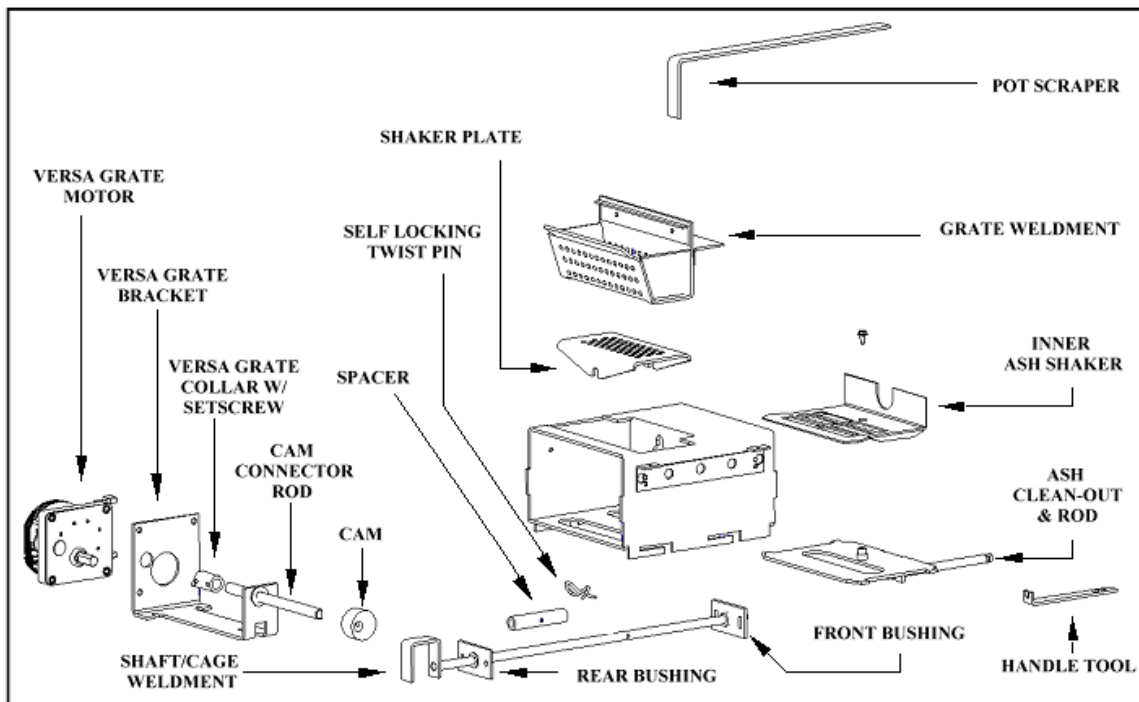
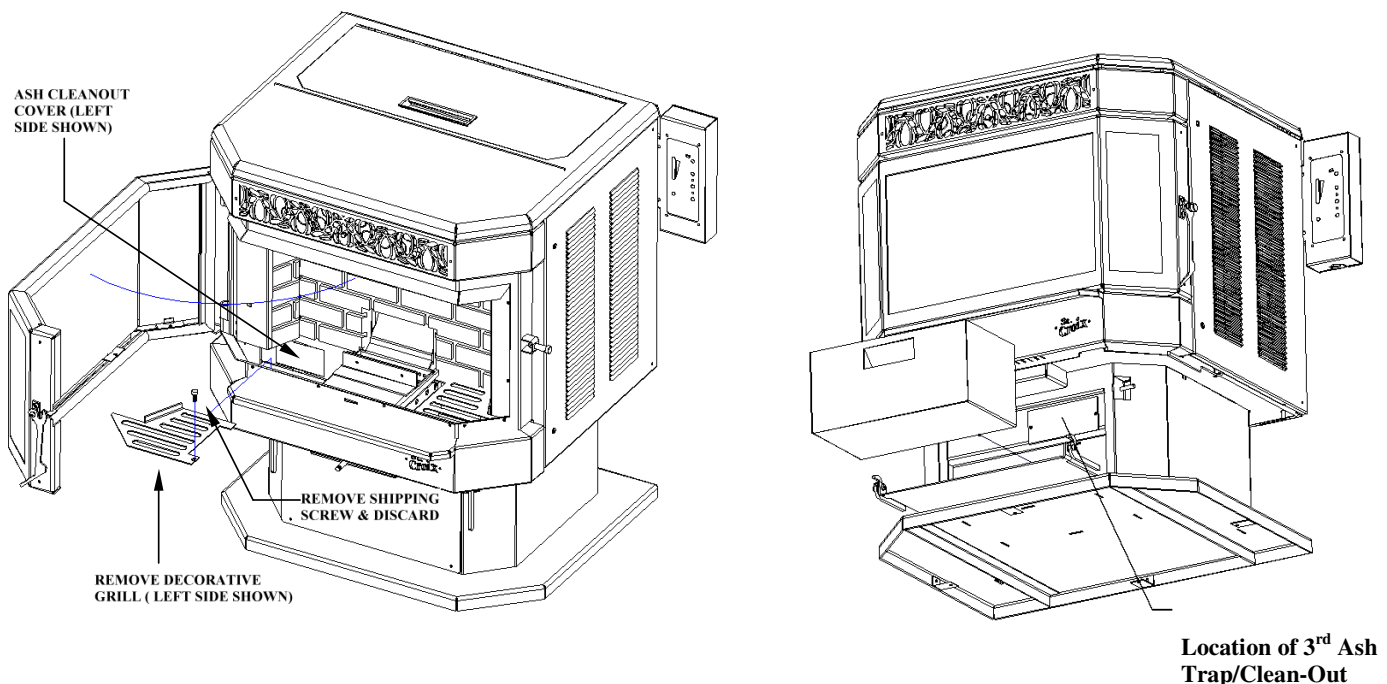

Figure 6
Figure 8
The Versa Grate System (see Figure 6 below). The benefit of this feature is that the stove can operate for longer periods of time, with most
First, let's become familiar with the burn system in a St. Croix Pellet stove. Remember, cleaning frequency may change dramatically from one fuel to another. Pellets with high ash content or that have increased amounts of impurities or high moisture content. Every St. Croix Pellet stove model will have the same system as shown in figure 6 below. There is a 2-piece burnpot. The top Part is called the **"Grate Weldment"**. This sits on top of the **"Shaker Plate"**. This in turn sits on top of the **"Shaft/Cage Weldment"** and is held in place with the **"Spacer"** & **"Self Locking Twist pin"**. The Shaft/Cage weldment is moved towards the front of the stove and then towards the back of the stove by the **"Cam"** that is connected to the **"Versa Grate Motor"**. This motion is constant, while the stove is in operation. The only parts that may need to be removed for cleaning purposes during the Daily or Periodic Maintenance are the **"Grate weldment"** and the **"Shaker Plate"**. This is to check the holes in the burnpot system to see if they are plugged.
2. Remove ash buildup under the grate bottom daily or as frequently as needed. Clean the ashes out from under the burn pot by pulling the Ash Cleanout Rod in and out several times (see Fig. 6) Use the Rod Pull Tool with the Ash Cleanout Rod. This tool is hanging on a screw on the back of the stove; this provides a convenient location to keep the tool in reach and prevent it from getting lost.
3. Check ash pan (See Fig. 6) to determine emptying frequency needed. NOTE: Do not use a vacuum cleaner for this purpose. Hot coals may cause your vacuum filter to catch fire. Place ashes in a metal container with a tight fitting lid. The closed container of ashes should be placed on a noncombustible floor or on the ground, well away from all combustible materials, pending final disposal. If the ashes are disposed of by burial in soil or otherwise locally dispersed, they should be retained in the closed container for at least two days until all cinders have thoroughly cooled.
2. The Afton Bay has 3 Ash Traps/Clean-Outs, 2 of which are located below the rear brick panel. The third is located behind the Ash Pan. Remove covers and clean regularly. (See Figure 8 below) Be sure to clean both sides. Use scraper shown in figures 6 & 7 to scrape ash into ash pan. Use a vacuum (cold stove only) to thoroughly clean these areas.
3. Clean burn grate holes at least weekly. Remove the burn grate and use a small metal object to clean out plugged holes. (See fig. 6 on page 12.)
1. **Spring Shutdown.** After the last burn in the spring, cool the stove. Remove all pellets from the hopper and the auger. Thoroughly clean the burn grate, burn grate box, ash pan and ash traps behind the ash pan. (*To locate the ash traps see Figure 8 on page 14*)